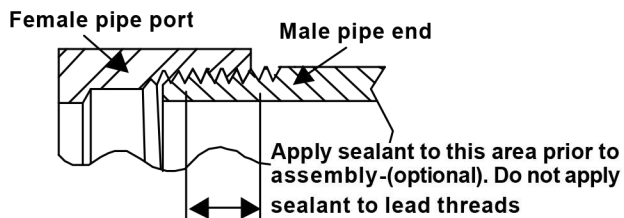

Fig.A10 NPTF Pipe Assembly
2. Lubricate or apply compatible sealant to male pipe thread. See Fig.A10.